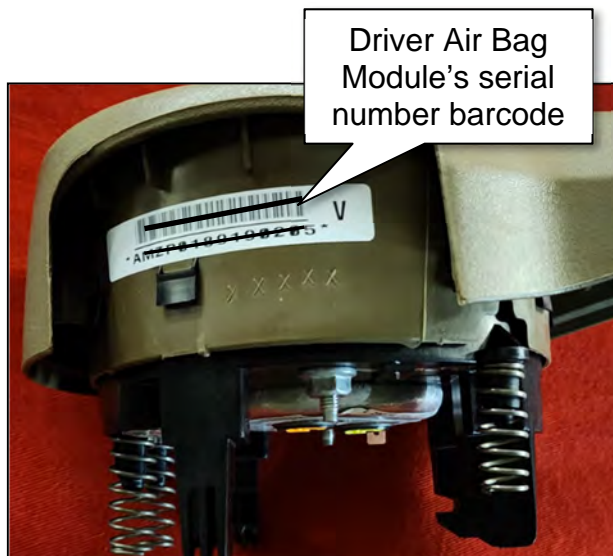

Figure 4
10. Locate the serial number barcode on the side of the Driver Air Bag Module, where shown in Figure 4.
If the Driver Air Bag Module has two (2) different labels, locate the label that appears similar to the label in Figure 4.